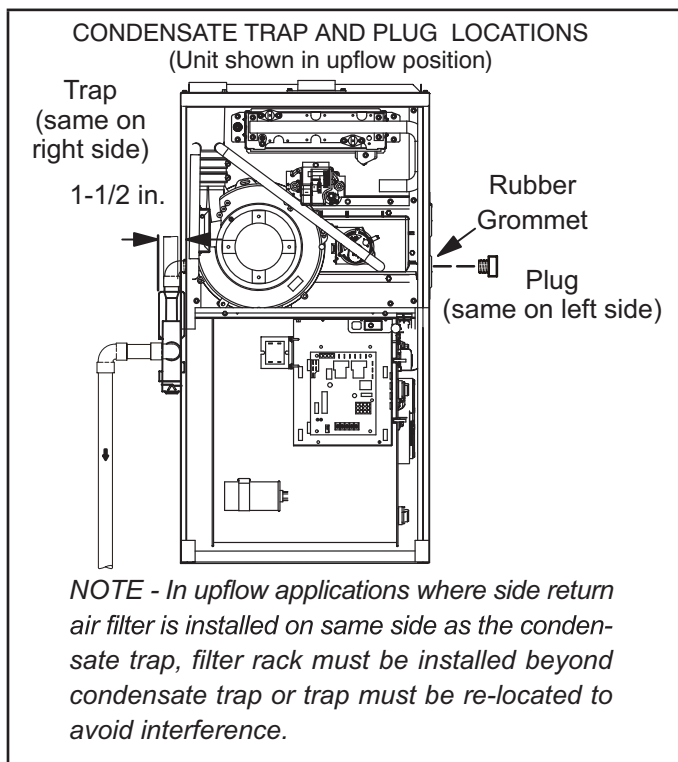
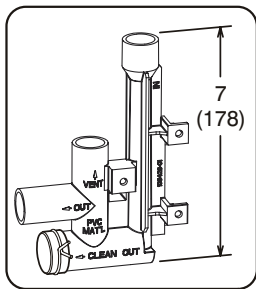

FIGURE 46
FIGURE 54
This unit is designed for either right- or left-side exit of condensate piping in upflow applications. In horizontal applications, the condensate trap must extend below the unit. An 8" service clearance is required for the condensate trap. Refer to "FIGURE 46" and "FIGURE 48" for condensate trap locations. "FIGURE 54" shows trap assembly using 1/2" PVC or 3/4" PVC.
- 2 - Use a large flat head screw driver or a 1/2" drive socket extension and remove plug ("FIGURE 46") from the cold end header box at the appropriate location on the side of the unit. Install provided 3/4 NPT street elbow fitting into cold end header box. Use Teflon tape or appropriate pipe dope.
- 3 - Install the cap over the clean out opening at the base of the trap. Secure with clamp. See "FIGURE 54".
- 4 - Install drain trap using appropriate PVC fittings, glue all joints. Glue the provided drain trap as shown in "FIGURE 54". Route the condensate line to an open drain. *Condensate line must maintain a 1/4" downward slope from the furnace to the drain.*